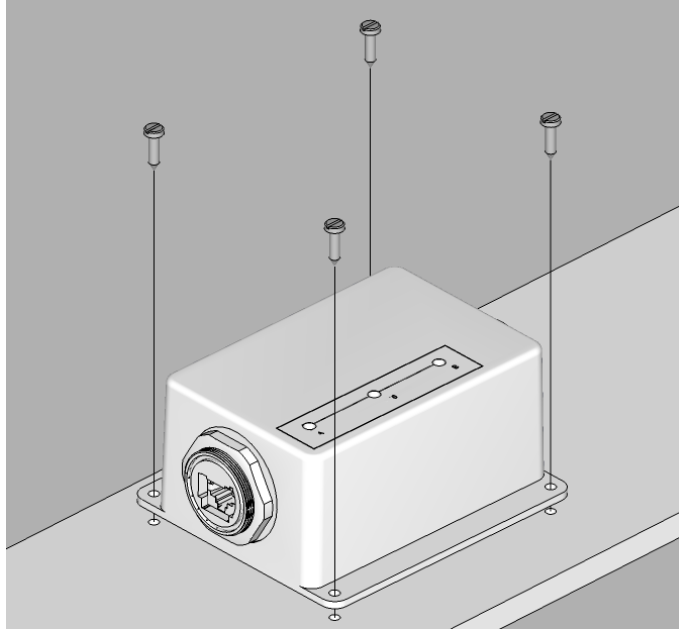

Figure 1 – Mounting the VDR100
Attach the VDR100 securely to the vessel using the included stainless steel mounting screws or other fasteners as shown in Figure 1 below. Do not use threadlocking compounds containing methacrylate ester, such as Loctite Red (271), as they will cause stress cracking of the plastic enclosure.